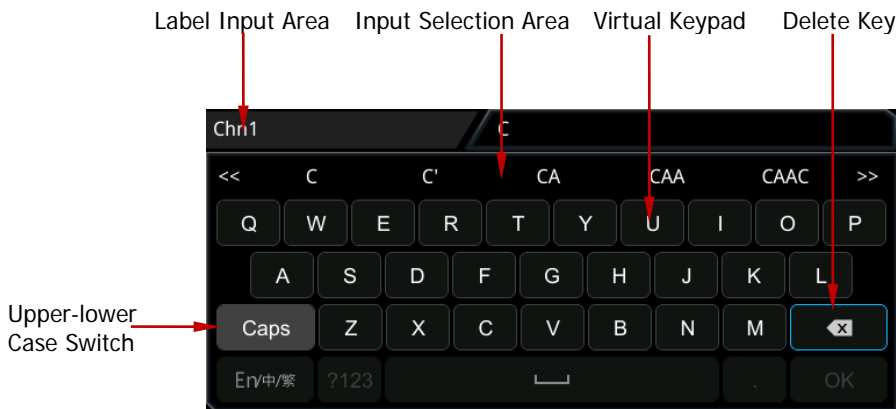

Figure 2-3 Label Editing Interface
- Press **Label** and the label editing interface is automatically displayed as shown in Figure 2-3. You can input the label manually. For the label input method, refer to "**To Create a Folder**".